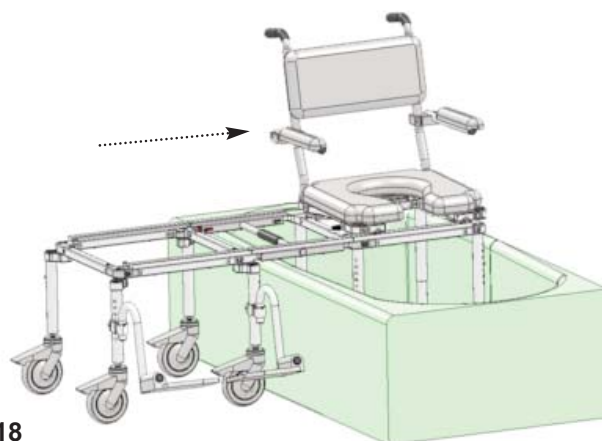

Figure 18
**F** Release the latch mechanism on the roll-in section and slide the slider seat assembly onto the tub section, making sure the latch engages fully and locks in place. If the roll-in section and tub section are not level in height or out of alignment, the slider seat assembly will not function correctly and safely. To ensure the safety of the user, make adjustments to both sections as needed and retry Step F (Refer to Figure 18).